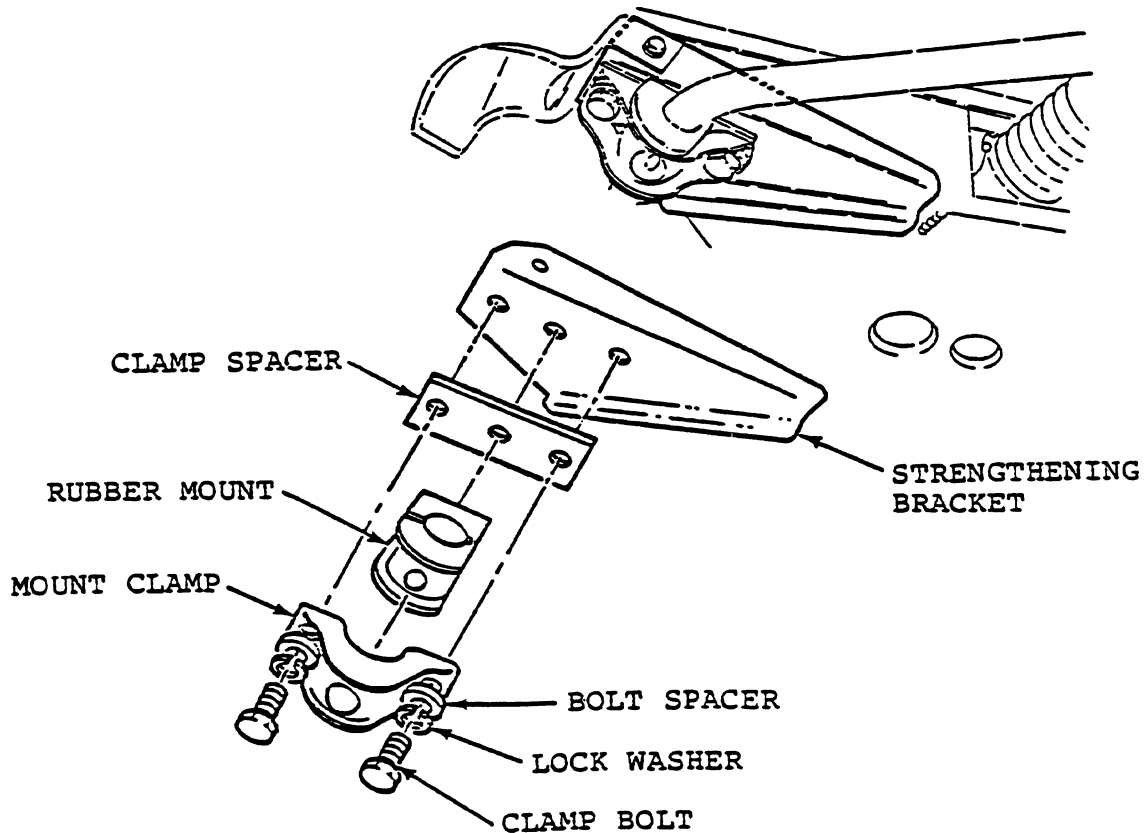

FIGURE 2
- a. Using the bolts to hold the side of the radiator bracket to the impact extension, install two (2) strengthening brackets (Part Nos. 111140/111141) to the impact extension loosely (See Fig. 2).
- b. Install clamp spacer (Part No. 106960) and anti-roll bar bracket (Part No. 108998) and spacers (Part No. 111205) using bolt (Part No. 111204) coated with Loctite 242. Torque to 35 NM (26 ft. lb.) (See Fig. 2).